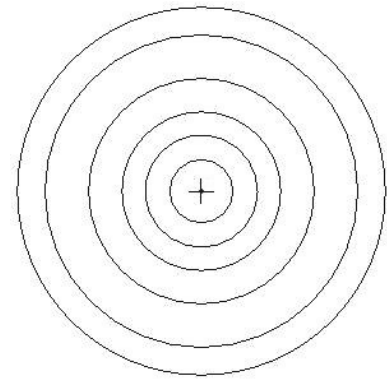

Figure 3-33 Concentric Circles
Step28: Use  to draw five additional concentric circles. Note that you must first select the desired circle, then create the new concentric circles. See Figure 3-33.